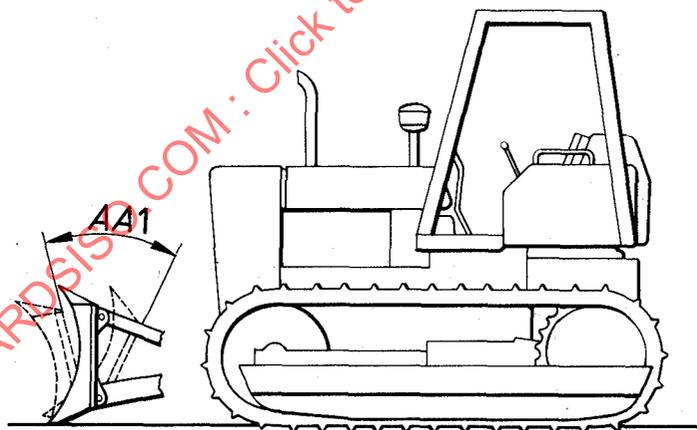

Figure 11 — Pitch movement
- pitch movement (see figure 11) : Blade movement in which the upper portion of the blade may be changed in angle by pivoting it around a line parallel to the cutting edge.